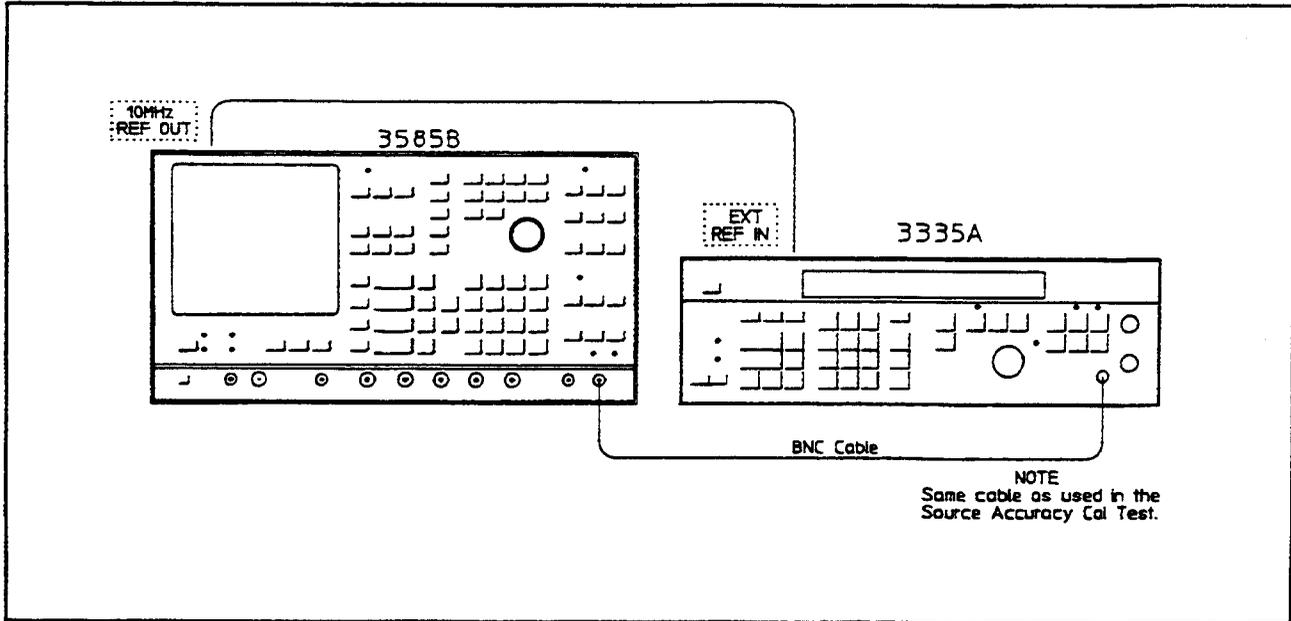

Figure 4-8b.
i. Connect the 3335A output to the 3585B 50Ω input as shown in Figure 4-8b.